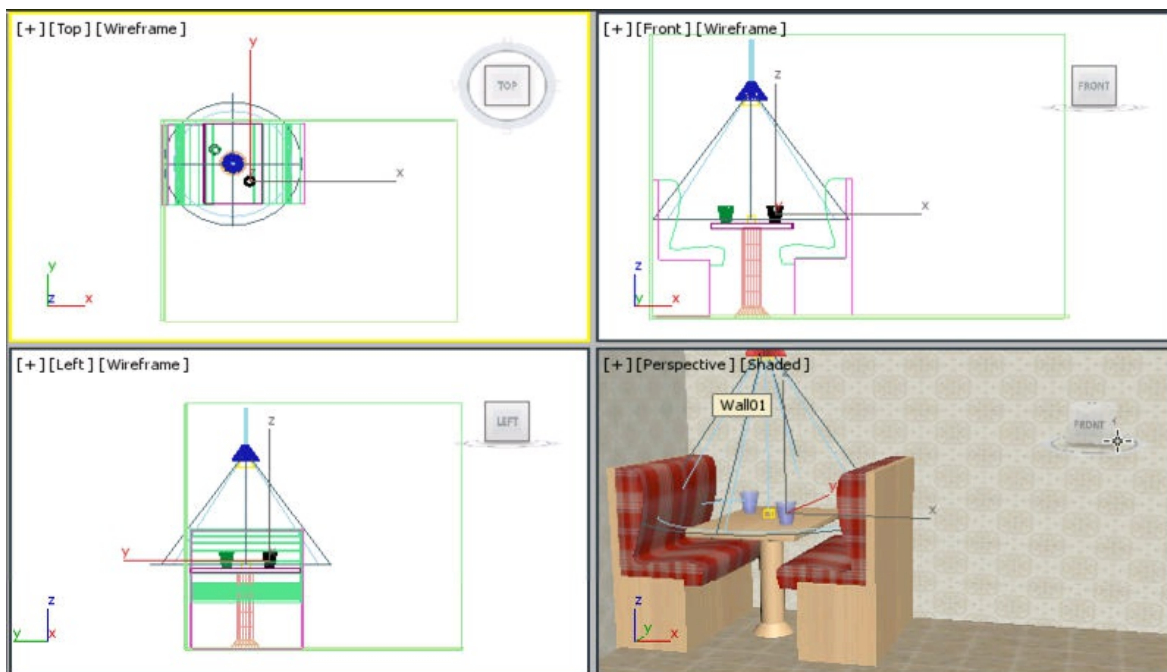

Figure P1-17 *Drink02 created and positioned*
32. Activate the Top viewport and align *Drink02* so that it is placed at the right of the center line and about $\frac{1}{4}$ th of the length of the table, as shown in Figure P1-17.